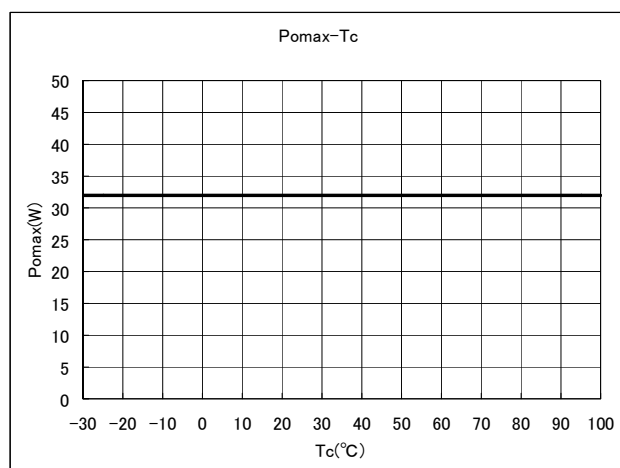

Figure 1 Pomax-Tc
Note 2: The output power rating satisfies the range shown in Figures 1 and 2 according to the operating case temperature. Ensure that the device should be operated within the specified operating range. The figures below indicate the output power obtained 2 seconds after P_o is generated.
*When the device is used at $T_c = 100^\circ\text{C}$, the output power rating is 32 W as shown in Figure 1. When the power dissipation at $T_c = 100^\circ\text{C}$ exceeds the rating shown in Figure 2, the output derating is required to limit the dissipation within the specified range.
Note 5: The output power is intended to follow the rating provided in Figure 1 in Note 2.